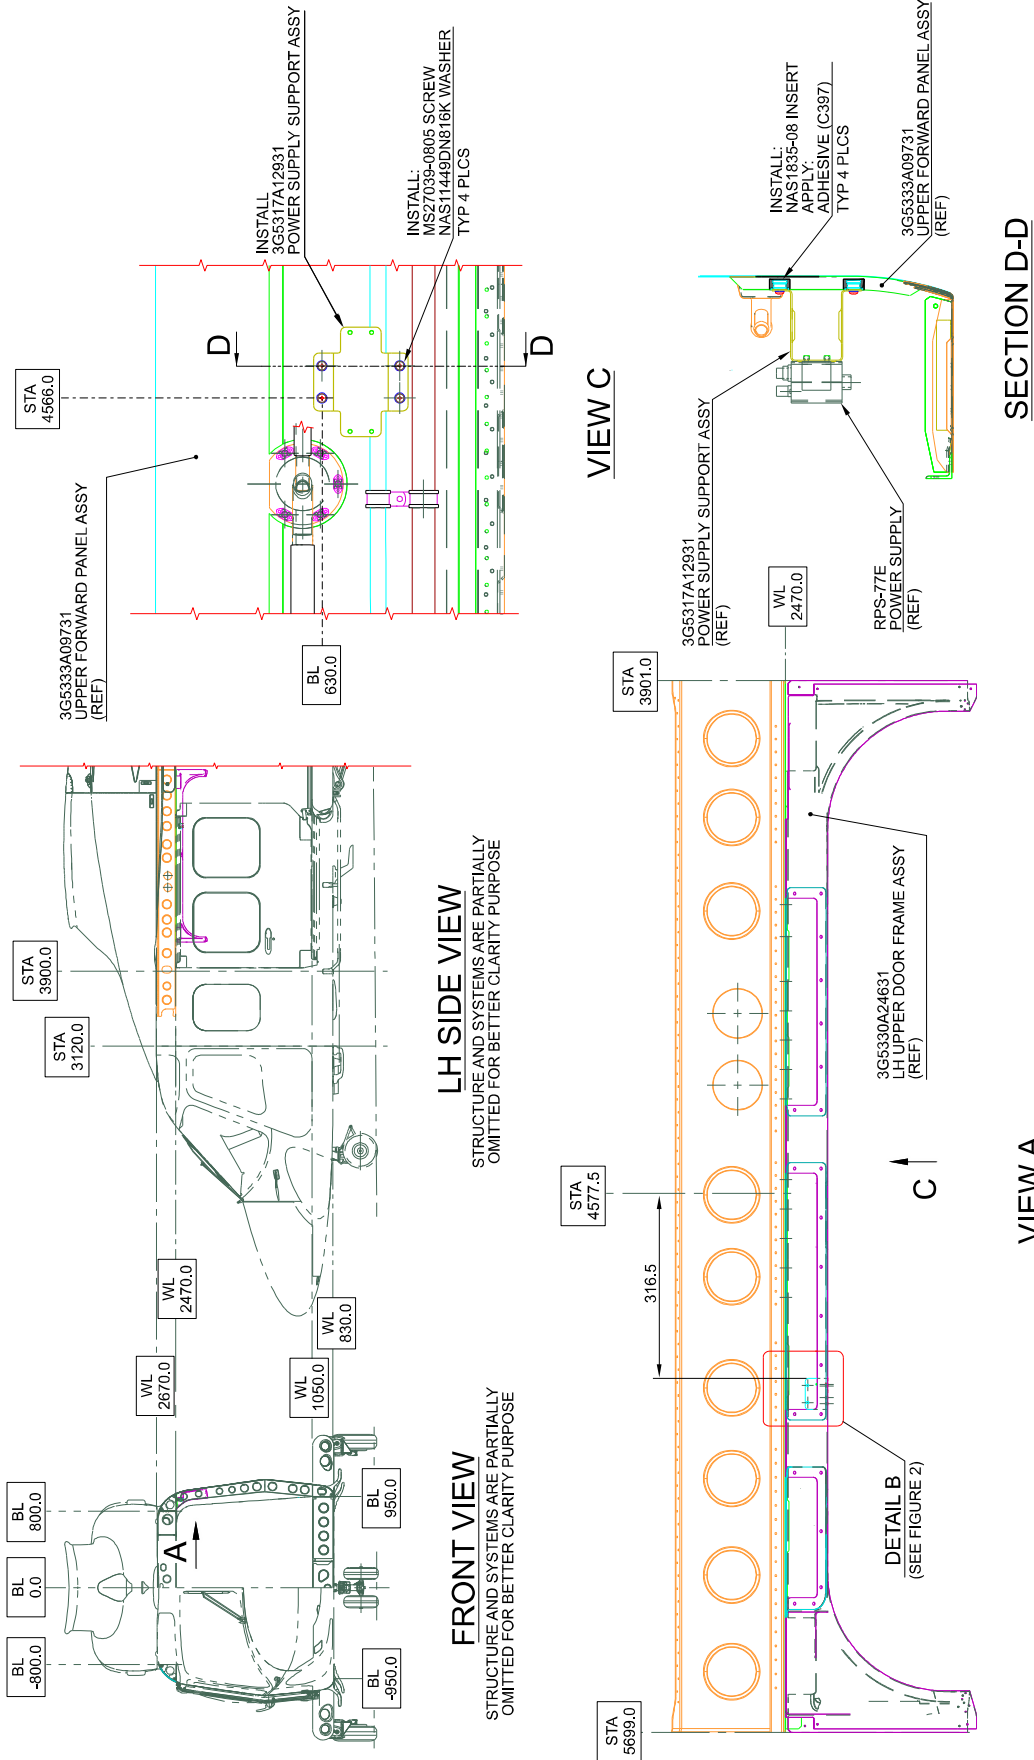

Figure 1
2. In accordance with DM DM0139-A-06-41-00-00A-010A-A and with reference to Figures 1 thru 8, gain access to the area affected by the installation and perform complete provision P/N 3G9750A01411 as described in the following procedure:
- 2.1.1 With reference to Figure 1 View C, temporarily locate the power supply support assy P/N 3G5317A12931 on the upper forward panel assy P/N 3G5333A09731 and countermark n°4 hole positions in accordance with the dimensions shown.
- 2.1.2 With reference to Figure 1 View C and Section D-D, drill n°4 holes $\text{Ø}17.42\div 17.55$ thru the upper forward panel assy P/N 3G5333A09731 in the previously countermarked positions.
- 2.1.3 With reference to Figure 1 Section D-D, install n°4 inserts P/N NAS1835-08 on the structure by means of Adhesive (C397).
- 2.1.4 With reference to Figure 1 View C, install the power supply support assy P/N 3G5317A12931 on the upper forward panel assy P/N 3G5333A09731 by means of n°4 screws P/N MS27039-0805 and n°4 washers P/N NAS1149DN816K. In accordance with DM 39-A-20-00-00-00A-711A-A, tighten the four screws to the standard torque value.
- 2.1.5 With reference to Figure 1 View A and Figure 2, temporarily locate the support assy P/N 3G5317A00432 on the LH upper cover door frame assy P/N 3G5330A23951 and countermark n°2 hole positions in accordance with the dimensions shown.